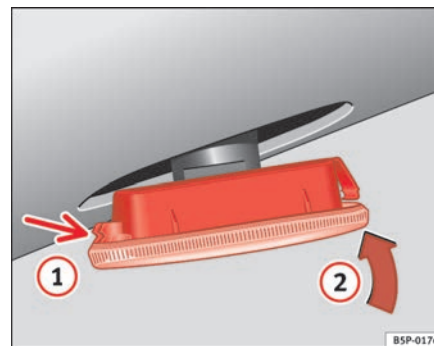

Fig. 158 Side indicators
- First fit the indicator in the opening in the chassis, fastening the tabs ① ⇒ page 224, fig. 158, and then fit the lamp as shown by the arrow ② ⇒ page 224, fig. 158. ■